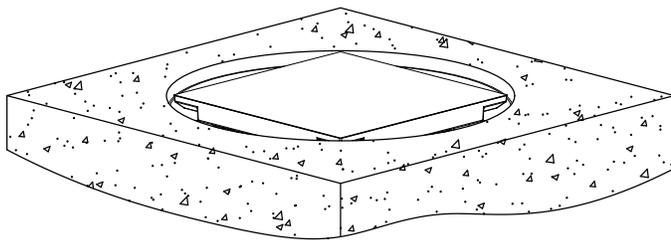

Fig. 11S
11. Turn head assembly clockwise until top of strainer is flush with the finish floor. See Fig. 11S